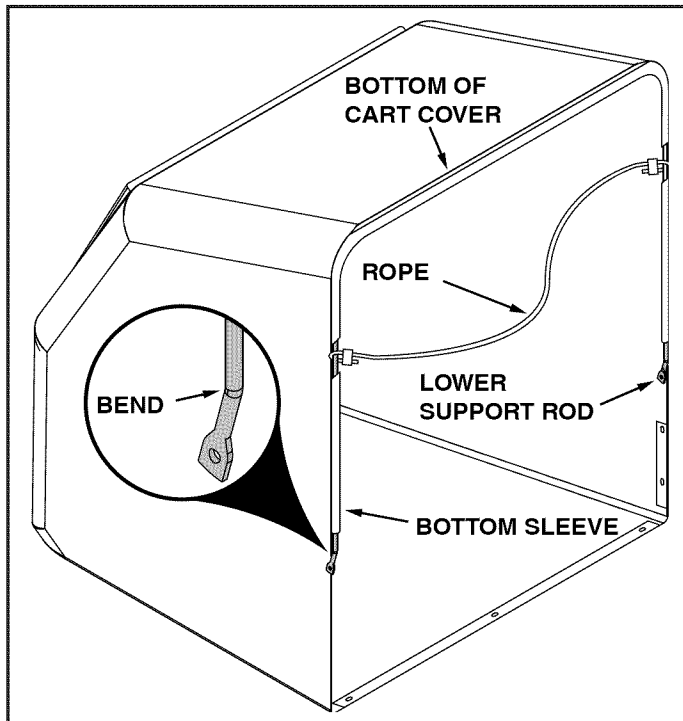

FIGURE 15
- Slide the second lower support rod (bent ends) through the sleeve along the bottom of the cart cover. Slide an end of the rope onto the end of the rod as it approaches each gap in the sleeve. The **bend** in the rod must face in the direction shown in figure 15.